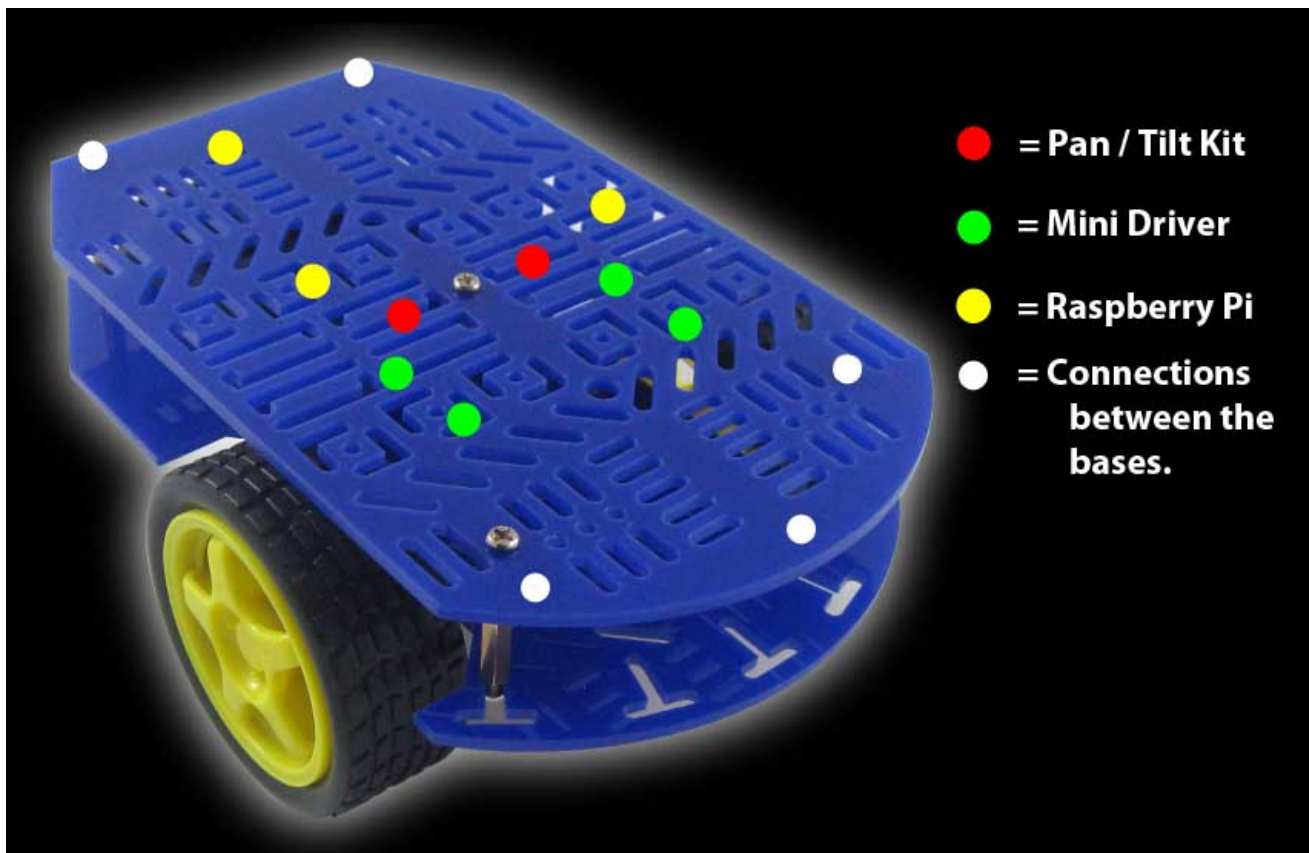

Figure 1: Diagram describing the attachment points for the hardware attaching to the base of the robot.
3. I then attached the pan/tilt kit to the top base piece, per fig. 1.
4. Afterwards, I attached the Mini Driver and Raspberry Pi, per fig. 1.
5. The top base piece was then attached to the bottom base piece via the attachment points described in fig. 1. After attaching the corner connections, place the power bank between the frames, and then attach the back-center connection.